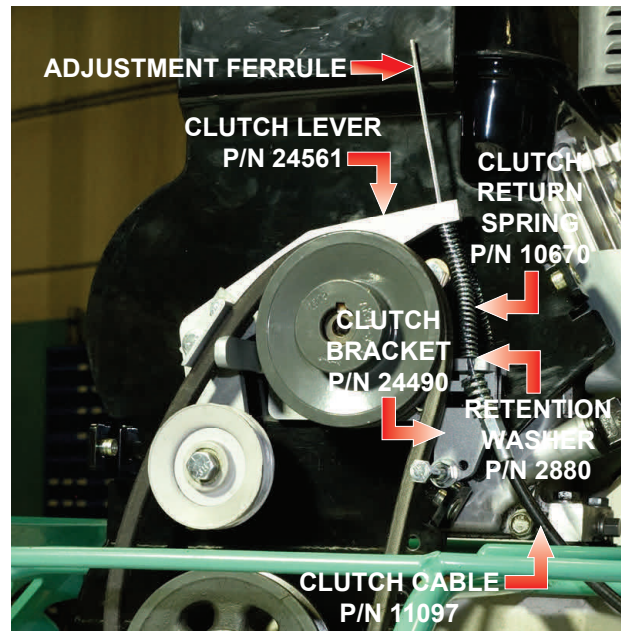

Figure 33. Clutch Cable Installation
- Insert the clutch cable (P/N 11097) through the clutch bracket (P/N 24490) and clutch lever (P/N 24561) as shown in Figure 33. The clutch return spring (P/N 10670) should fit between the clutch bracket and clutch lever. The retention washer (P/N 2880) should rest between the clutch return spring and the clutch bracket. The adjustment ferrule should extend through the clutch lever as shown.